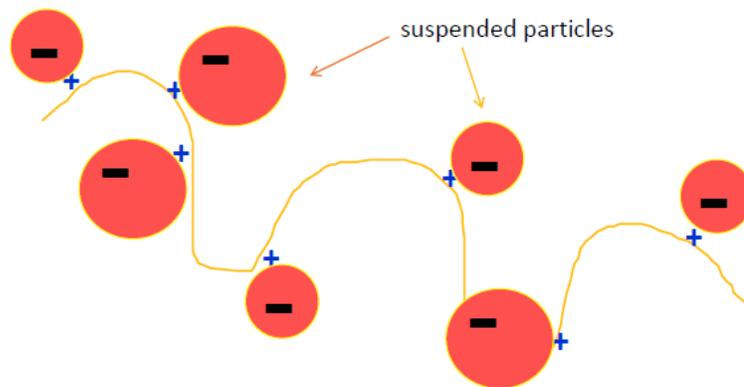

Figure 3. A Depiction of a Floc Formed by a Cationic Polymer Chain Bridging the Solids Particles. Reprinted with permission from UGSI Chemical Feed Inc.
- Polymers are effective for use as flocculants because they consist of long chains of molecules called *monomers*. Monomers can create bridges between solids particles (see Figure 3). Polymers can have different charges, charge densities, and molecular weights. Polymers that have a positive charge (otherwise known as cationic) and a high molecular weight are typically used for thickening and dewatering solids separation processes.